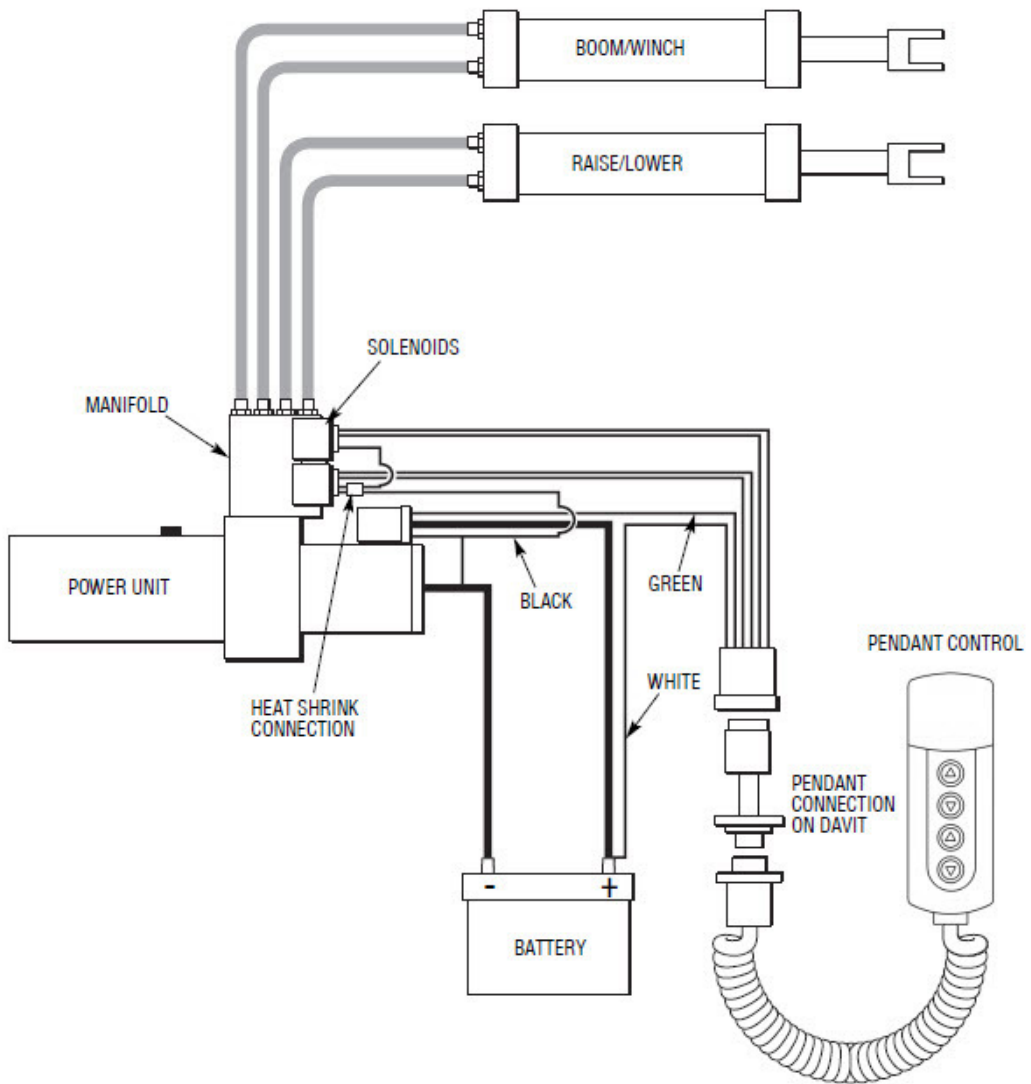
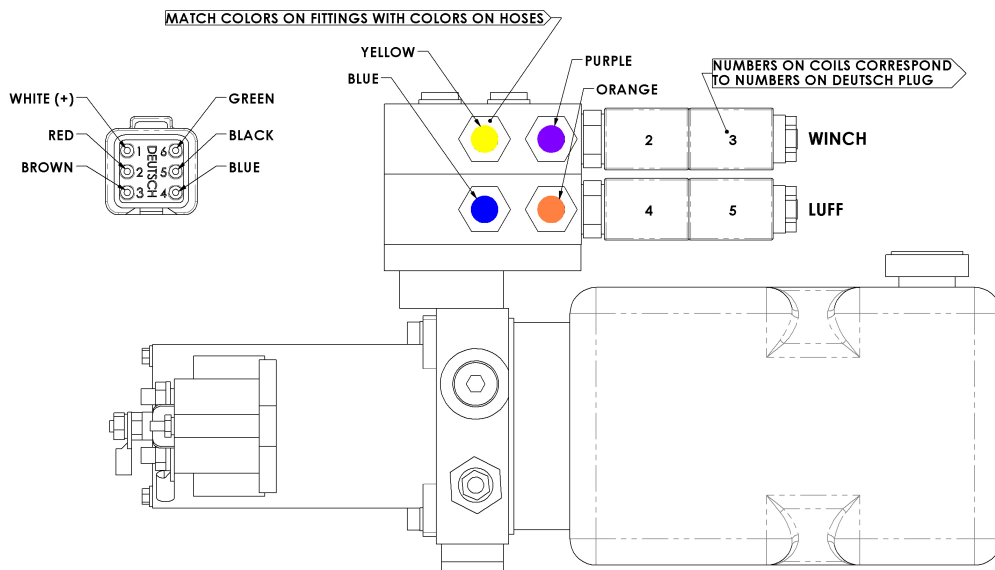

Figure 8: Electrical and Hydraulic Connections
Figure 9a: 2-Function HPU Electrical/Hydraulic
2. Complete electrical connection to the HPU to supply power as per Figure 8 and Figure 9a.
5. Complete electrical connections as per Figure 8 and Figure 9a.
5. Attach the tender's lifting bridle to the weighted hook. Using the pendant control (Figure 8), position the lifting bridle to enable attachment to the tender.